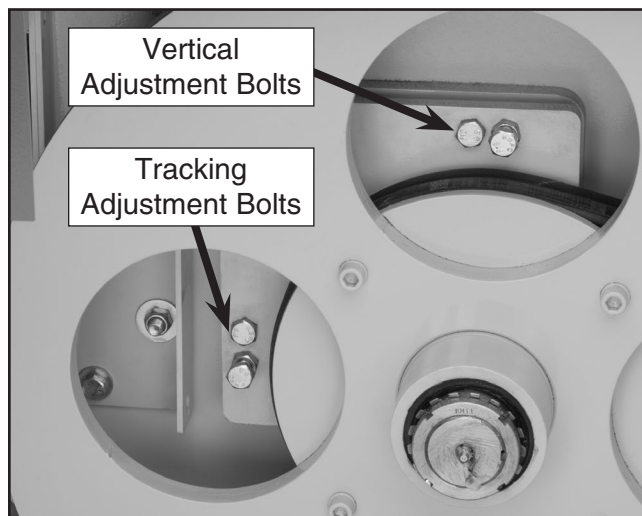

Figure 56. Tracking adjustment bolts.
9. Loosen the jam nuts on the tracking adjusting bolts and loosen the lock bolts. (See **Figure 56**)